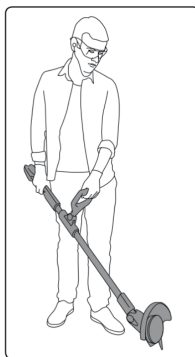

Fig. 10-2
- Using as a edge trimmer (Fig. 10-2)